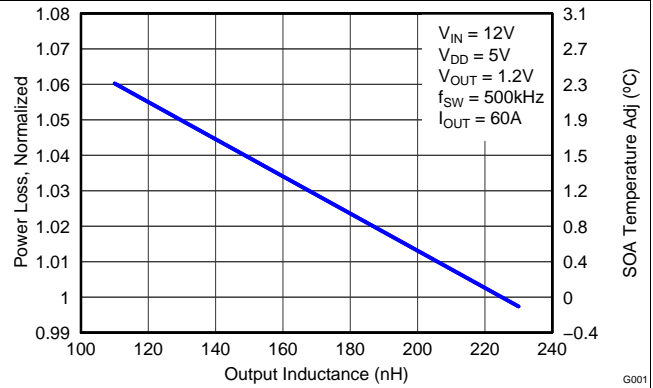

Figure 8. Normalized Power Loss vs Output Inductance
- Normalized Power Loss for output inductor ≈ 1.01 (Figure 8)
- SOA adjustment for output inductor $\approx 0.5^{\circ}\text{C}$ (Figure 8)